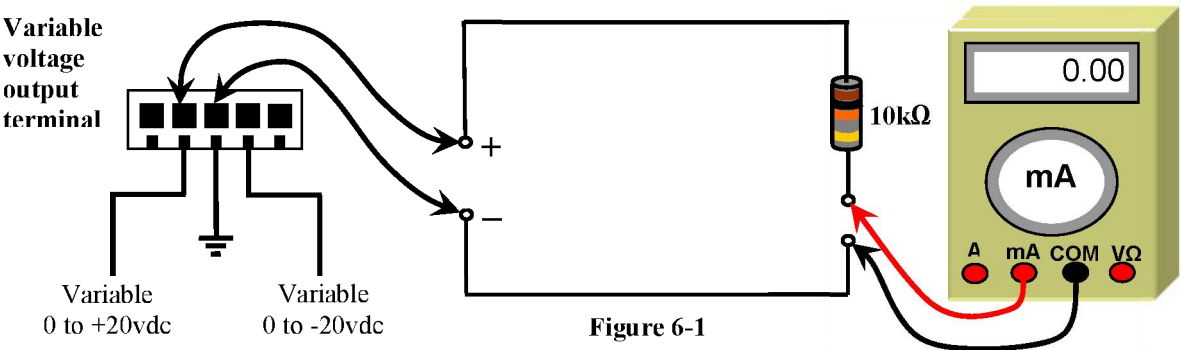

Figure 6-1
1. Connect the circuit shown in figures 6-1 and 6-2.